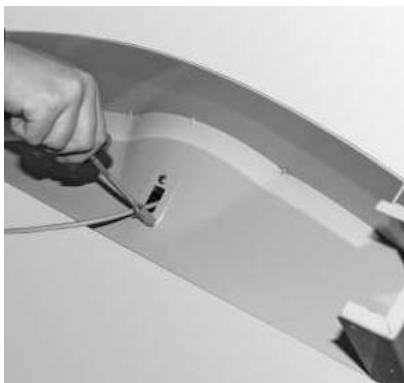

Fig. 63 Mounting InfoWINplus on cladding door cover
- Mount InfoWINplus (part 8) on cladding door cover (part 6) with a saw tooth ring for earthing (Fig. 62) and 3 nuts – Fig. 63.